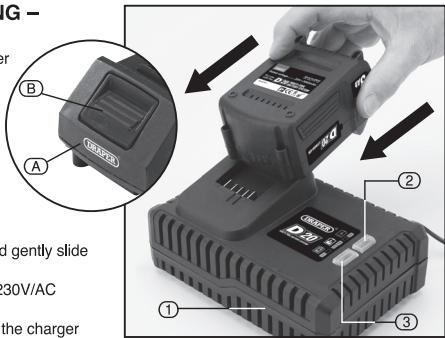

FIG.1
### 8.1 BATTERY PACK CHARGING – FIGS. 1 – 2
- Press the battery release button (B) and gently slide the battery pack off (Fig.1).
- Plug the battery charger (1) unit into a 230V/AC 13amp three pin supply socket.
- The red LED (2) will illuminate to show the charger has power.
- After a few seconds delay, the red LED (2) will flash to show that charging has begun, then illuminate solid red.
- Whilst the battery is charging, the green LED (3) will flash, (the red LED will go from flashing to constant red).